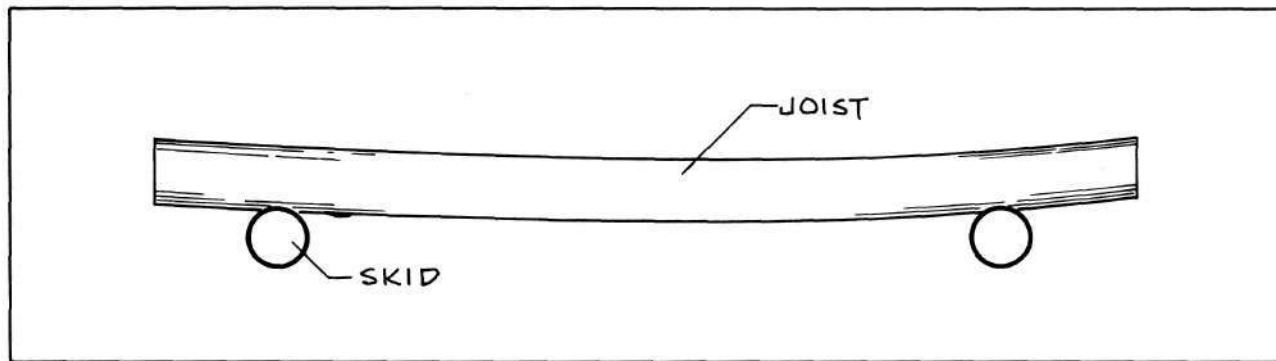

Fig. 5.
- STEP 3:** *Rotate the log so the "bow" of the log is in a downward position and block the log firmly. See Fig. 5.*